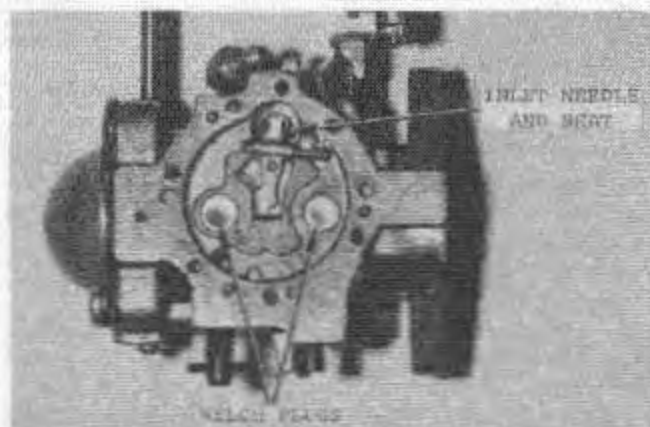

Fig. 31 — Carburetor with Fuel Pump and Metering Diaphragms Removed
b. Install new Welch plugs (if removed) into their bore with convex side upward. Make sure plugs fit tightly in their seats. A correctly installed plug is flat in its seat. See Fig. 31.